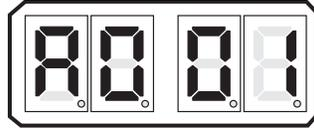

Figure 10-1: Display Function Code List
- B Depress the Up or Down Push Button to activate the Function Code List. The characters A001 will be shown on the Display like Figure 10-1: Display Function Code List